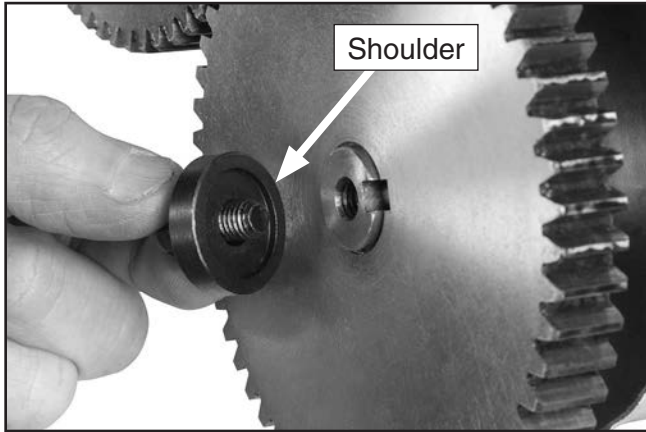

Figure 65. Shoulder washer positioning.
- Slide the 57-tooth gear onto the lower spindle, install the shoulder washer on the spindle so the shoulder faces the gear (**Figure 65**), and install the cap screw.